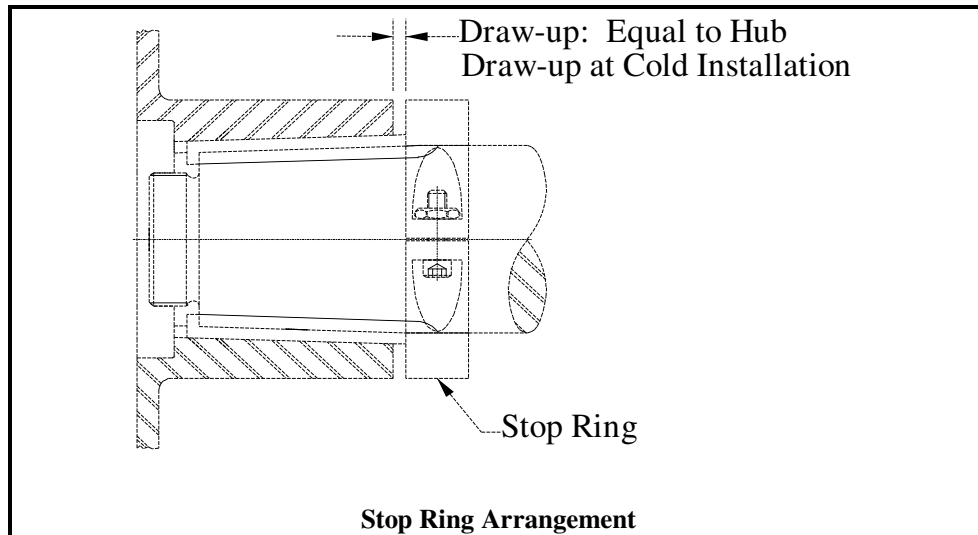

Figure 4-3
- 4.2.2.6 Install the hub, hand tight, onto the shaft. Using feeler gages, install a positive stop onto the shaft corresponding to the draw-up specified on the Ameridrives Sales Drawing (see Figure 4-3).